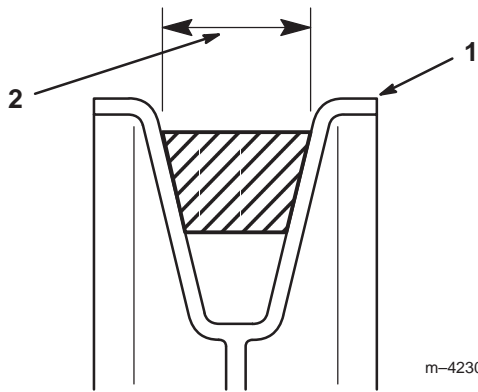

Figure 16
6. Make certain that the wide side of the PTO drive belt is toward the outside diameter of **all (four) pulleys (Fig. 16).**